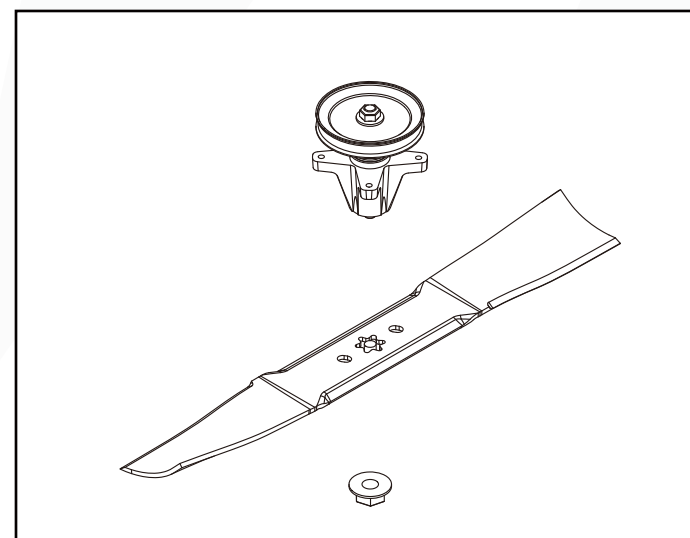

Fig. 28
5. Remove the blade nut and blade. (Fig. 28)